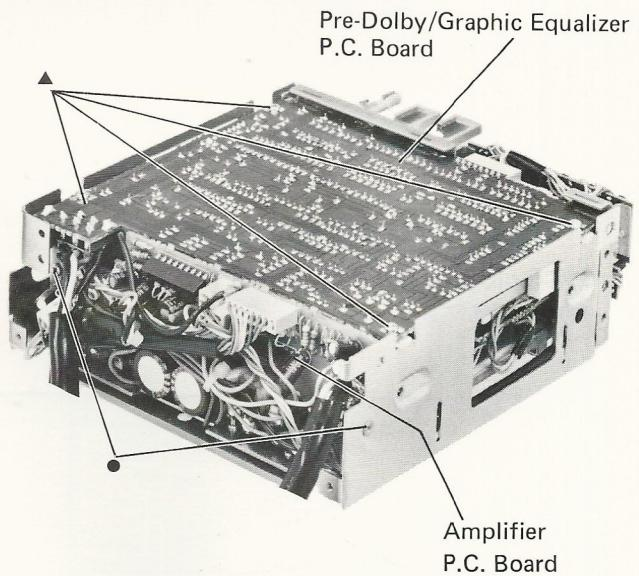

Figure 8
- (1) First, detach the connector and lead wires between the main amplifier P.C. Board and the other P.C. Boards.
- (2) Remove two screws marked “●” as shown in Figure 8 and the main amplifier P.C. Board can be removed out.
- (1) Remove four screws marked “▲” as shown in Figure 8.
- (2) Detach the connectors and lead wires between the Pre-Dolby/graphic equalizer P.C. Board and the other P.C. Boards.